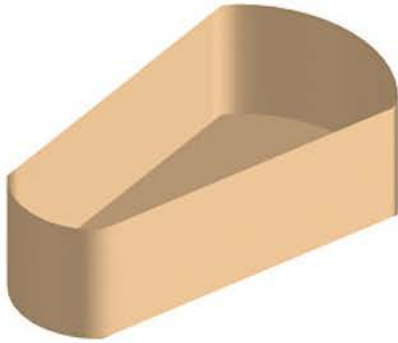
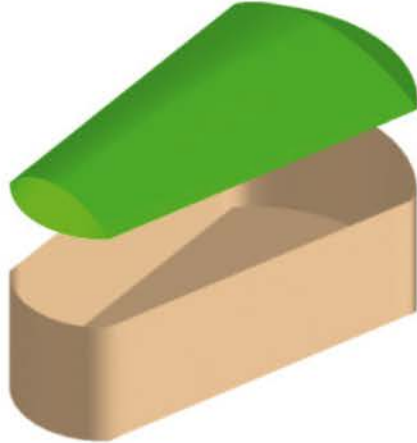

Fig. 18.46 Exercise 8 – the box
Fig. 18.47 Exercise 8
8. Construct suitable polylines to sizes of your own discretion in order to form the two surfaces to form the box shape shown in Fig. 18.46 with the aid of the **Rulesurf** tool. Add lighting and a material and render the surfaces so formed. Construct another three **Edgesurf** surfaces to form a lid for the box. Place the surface in a position above the box, add a material and render (Fig. 18.47)